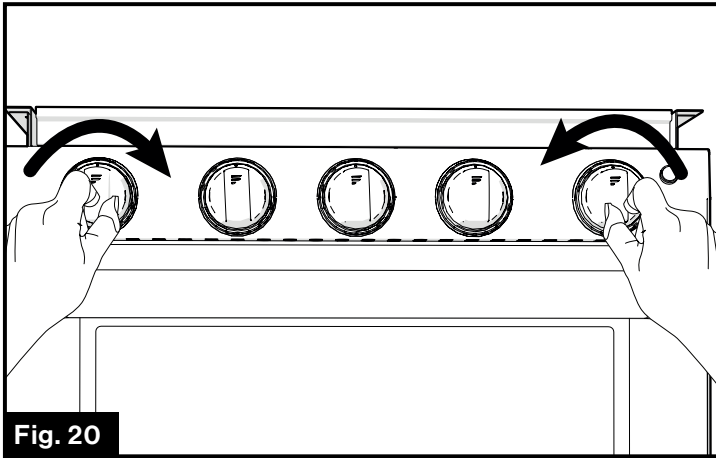

Fig. 20
- Keep the oven control knob pushed in and rotate the ignition knob clockwise repeatedly until the oven burner is lit. (Fig. 20)